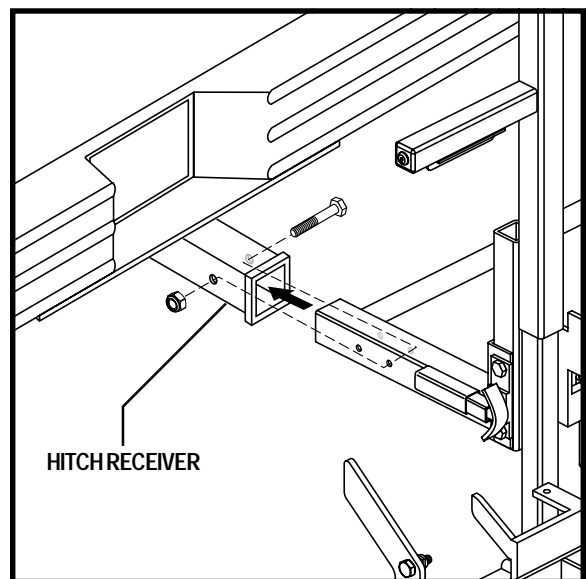

Figure 2. Lift Frame Vehicle Mounting
4. Slide the hitch tube into the vehicle hitch receiver, aligning the mounting hole closest to the lift with the mounting hole in the hitch receiver. See figure 2.
5. Secure the hitch tube with the supplied bolt and nut, inserting the bolt from the passenger's side through to the driver's side of the hitch. See figure 2.